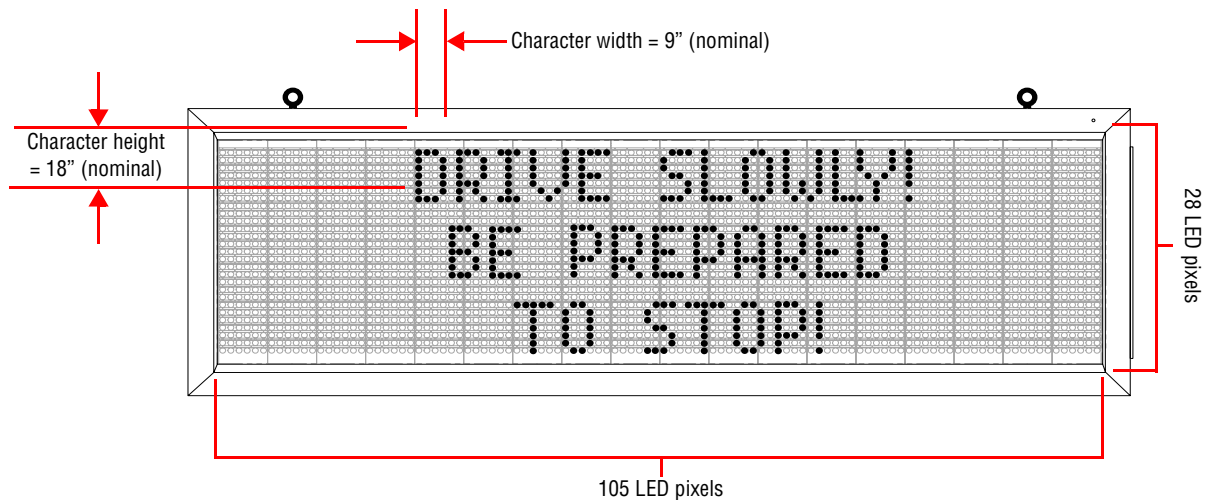

Figure 1: Display size
- Display size: 28 LED pixel rows x 105 LED pixel columns (see Figure 1).
- Character height: 18 inches, nominal (see Figure 1).
- Character width: 9 inches, nominal (see Figure 1).